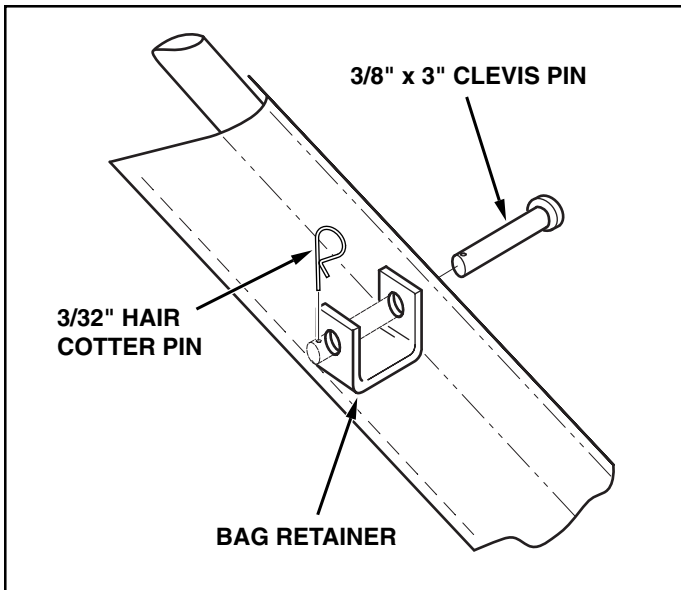

FIGURE 16
12. Insert the 3/8" x 3" clevis pins from the outside through the side tubes where the holes were pierced. Assemble the bag retainers onto the clevis pins and secure with 3/32" hair cotter pins. See figure 16.